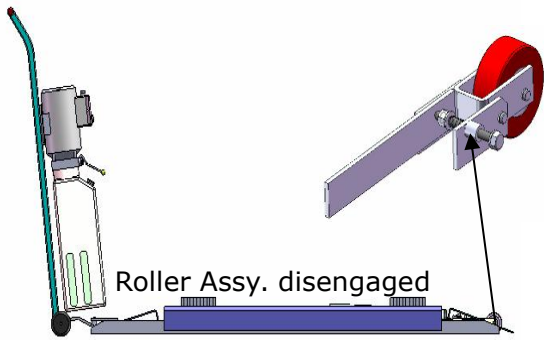

**Fig.13**
2. The roller must be disengage when lifting vehicle (**See Fig.15**). To raise and lock the lift: Press the button up till the lift is raised to the required height and the locks are in engaged (**See Fig.13**), then push release handle of the power unit, the lift would be locked.